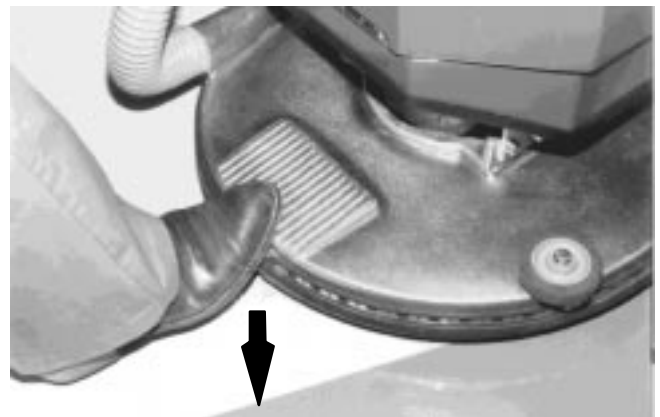

FIG. 5.
2. With the control grips released, step down on the rear of the pad shroud until the head locks in the down position (Figure 5).
2. With the control grips released, step down on the rear of the pad shroud until the head locks in the down position (Refer to Figure 5).